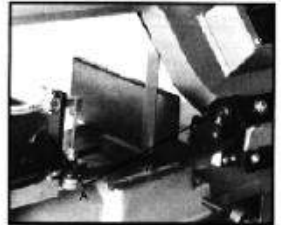

Fig.4
2. Place machinist's square on table next to blade as pictured in Fig.4.
5. Tighten bolts (A).